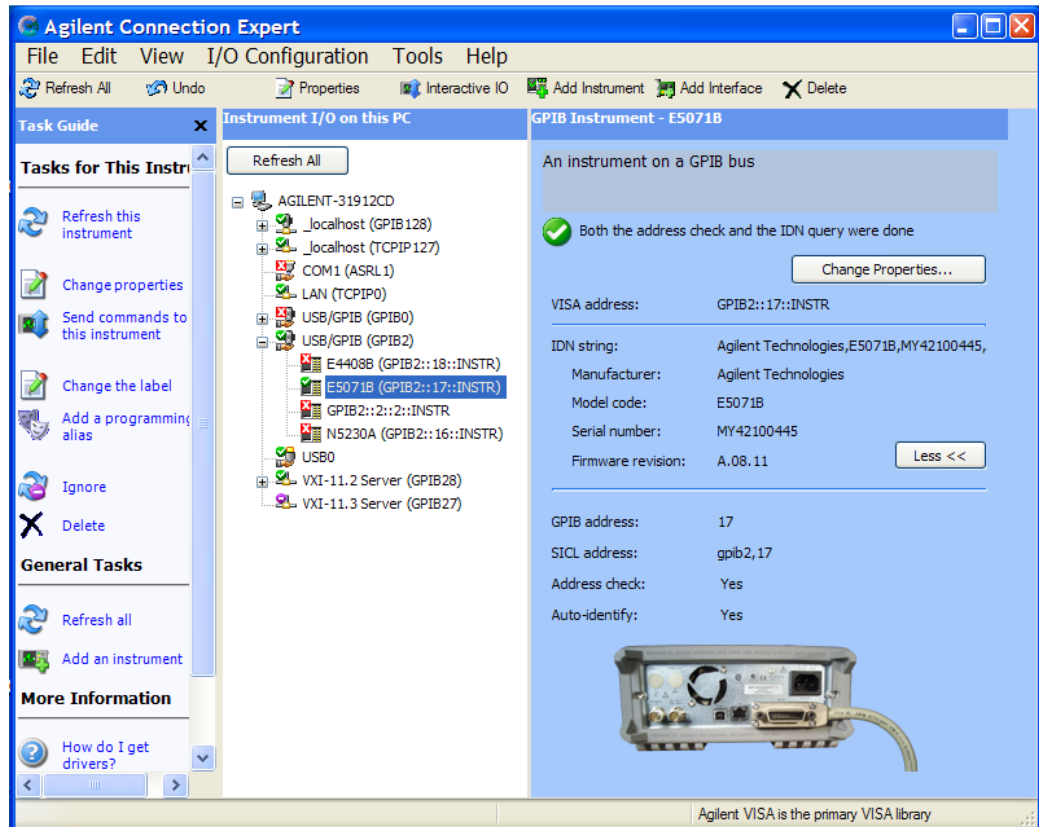

Figure 13 Agilent Connection Expert
- 8 Ensure that the application detects the spectrum analyzer connection to the oscilloscope. Else, click on the Connect... button in the Spectrum Analyzer External Instruments group. A pop-up box will appear where you can enter either the VISA/SICL address or the IP address. Enter the information and click the Verify button, followed by the Done button to close this box. The VISA/SICL address or the IP address can be obtained from the IO Control Connection Expert application, as shown in Figure 13.